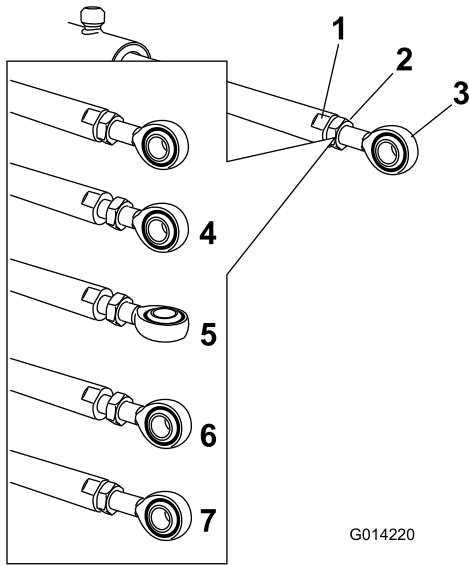

Figure 65
5. Use a wrench on the flat sides of the actuator rod to immobilize it then loosen the jam nut to allow for the eyelet rod to be manipulated (Figure 65).
6. Turn the eyelet rod in the actuator rod to shorten or lengthen the extended actuator to the desired position (Figure 65).